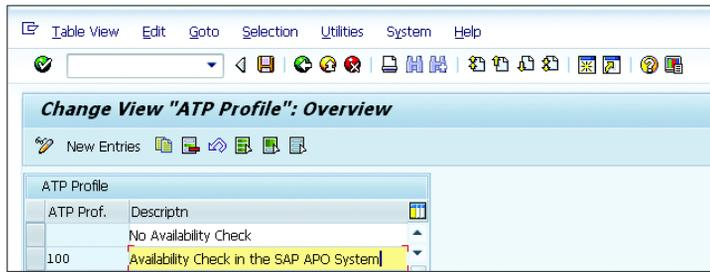

Figure 6.43 ATP Profile
2. Next, define the ATP PROFILE, as shown in Figure 6.43.